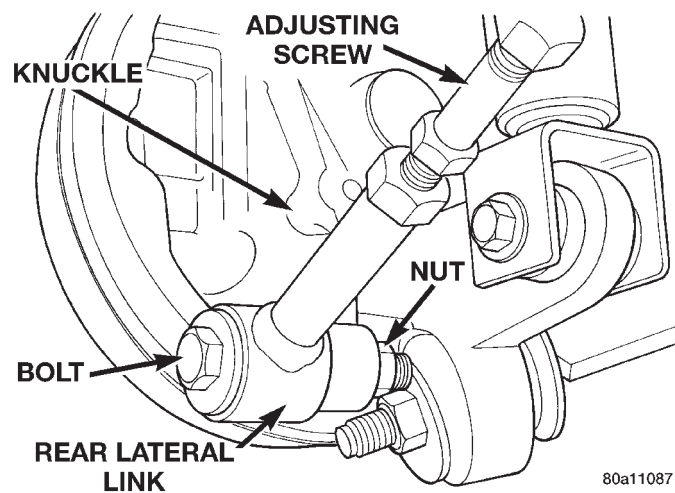
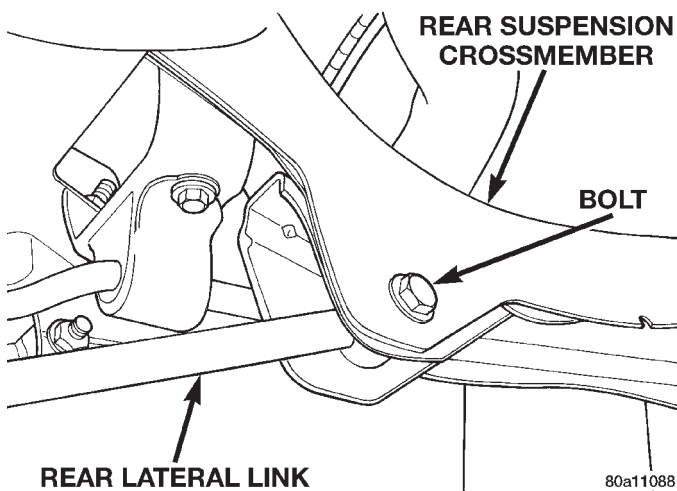

Fig. 45 Rear Lateral Link Attachment To Knuckle
Fig. 46 Lateral Link Attachment To Rear Suspension Crossmember
(1) Raise vehicle on jackstands or centered on a frame contact type hoist. See Hoisting in the Lubrication and Maintenance section of this manual, for the required lifting procedure to be used for this vehicle.
(2) Remove the rear wheel and tire assembly from the side of the vehicle requiring lateral link removal.
(3) Remove the nut, bolt and washer attaching the lateral link to the knuckle (Fig. 45).
(4) Remove the bolt (Fig. 46) and nut attaching the lateral link to the rear suspension crossmember.
(1) Install the lateral link and the attaching nut and bolt at rear suspension crossmember (Fig. 46). **The rear lateral link is to be installed with the adjusting screw toward rear knuckle not rear suspension crossmember (Fig. 45).**
(2) Install the lateral link and the attaching nut, bolt and washer at rear knuckle (Fig. 45).
(3) Torque both lateral link attaching bolts to 108 N·m (80 ft. lbs.).
(4) Install wheel and tire assembly on vehicle. Tighten the wheel mounting stud nuts in proper sequence until all nuts are torqued to half specification. Then repeat the tightening sequence to the full specified torque of 135 N·m (100 ft. lbs.).
(5) Lower vehicle to the ground.
(6) Check and reset rear wheel Camber and Toe to specifications if required. Refer to Front And Rear Alignment Setting Procedure in the Wheel Alignment Check And Adjustment section in this group of the service manual for the required alignment setting procedure.